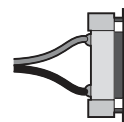

fig. 2
2. Pull out the fastener of the feed connector (fig. 2).